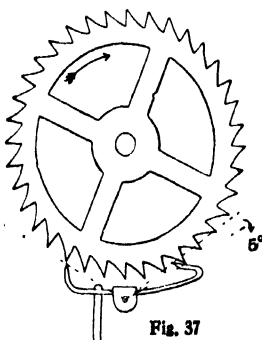

Fig. 37
These (see Figs. 37 and 38) are found in nearly all
**Figs. 37 and 38.—American Recoil Escapement**